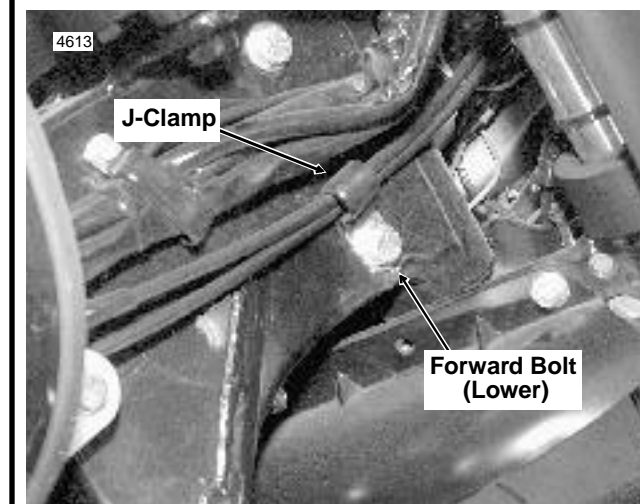

**Figure 8. Install Cable Strap**
15. On right side of vehicle, verify that the idle and throttle control cables, wire bundles, wire harness and frame backbone are captured before mating strap ends (see Figure 8). Tighten cable strap, but leave loose enough so that one finger can be inserted between strap and frame backbone. **Do not overtighten.** Cut any excess cable strap material.